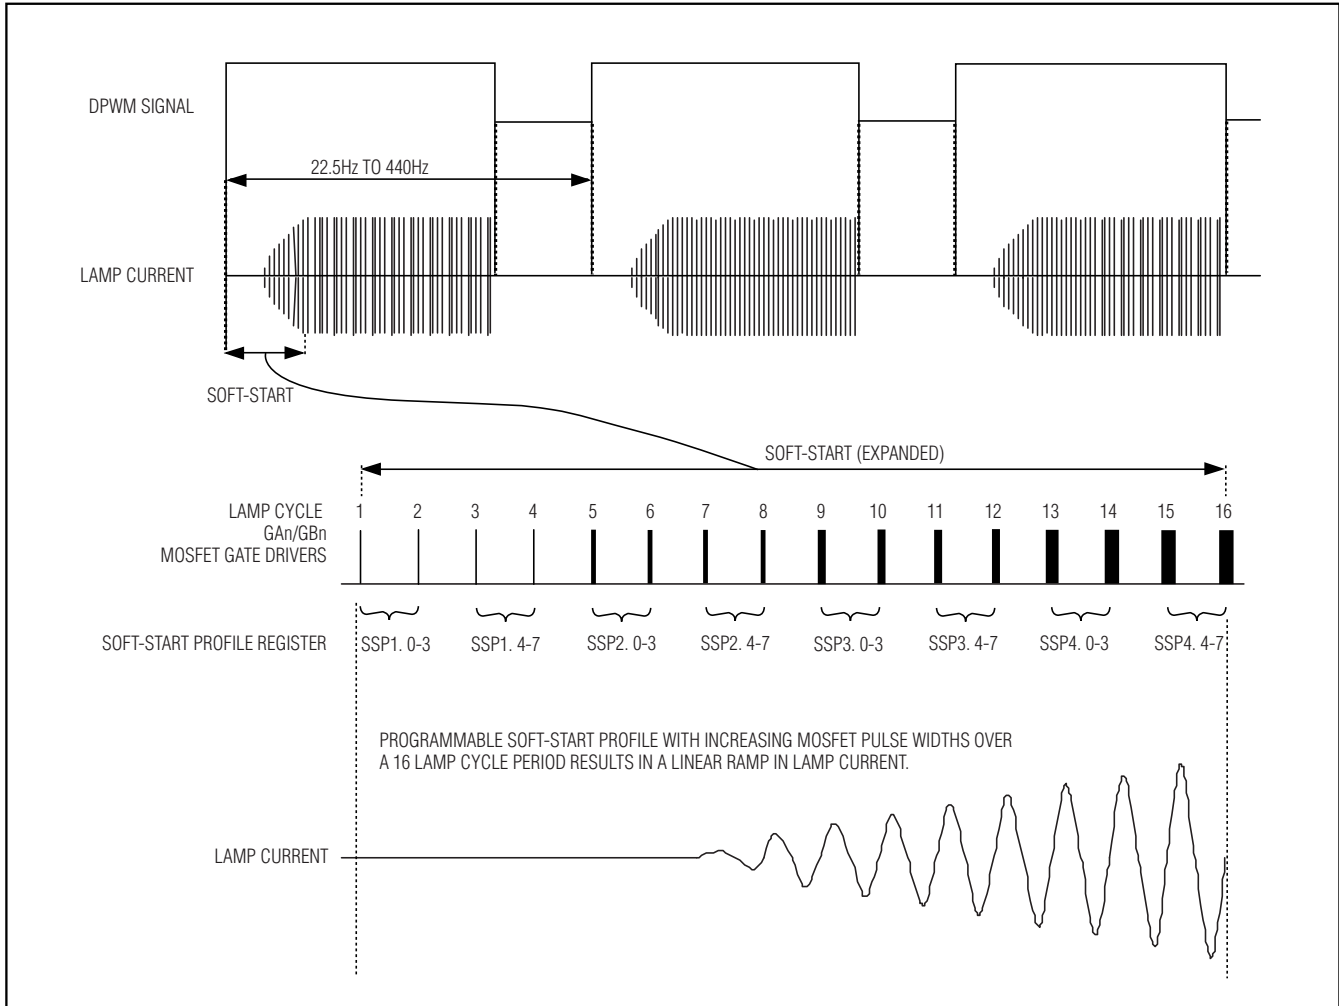

Figure 6. Digital PWM Dimming and Soft-Start
lamp frequency (40kHz to 80kHz) as shown in Figure 6. This part of the cycle is called the “burst” period because of the lamp frequency burst that occurs during this time. During the low period of the DPWM cycle, the controller disables the MOSFET gate drivers so the lamps are not driven. This causes the current to stop flowing in the lamps, but the time is short enough to keep the lamps from de-ionizing. Dimming is increased/decreased by adjusting (i.e., modulating) the duty cycle of the DPWM signal.
At the beginning of each lamp burst, the DS3988 provides a soft-start that slowly increases the MOSFET gate-driver duty cycle (see Figure 6). This minimizes the possibility of audible transformer noise that could result from current surges in the transformer primary. The soft-start length is fixed at 16 lamp cycles, but the soft-start ramp profile is programmable through the four Soft-Start Profile registers (SSP1/2/3/4) and can be
**Soft-Start Profile (SSPx) Registers**—Each of the four soft-start profile registers (SSP1–4) contains two 4-bit codes that determine the MOSFET's duty cycle (MDC) for two clock cycles each (see Figure 6) at the beginning of each DPWM burst. Table 2 shows the duty cycles that correspond to each code. Selecting the Most Recent Value instructs the DS3988 to use the MOSFET duty cycle that was used for the last lamp cycle of the previous burst.